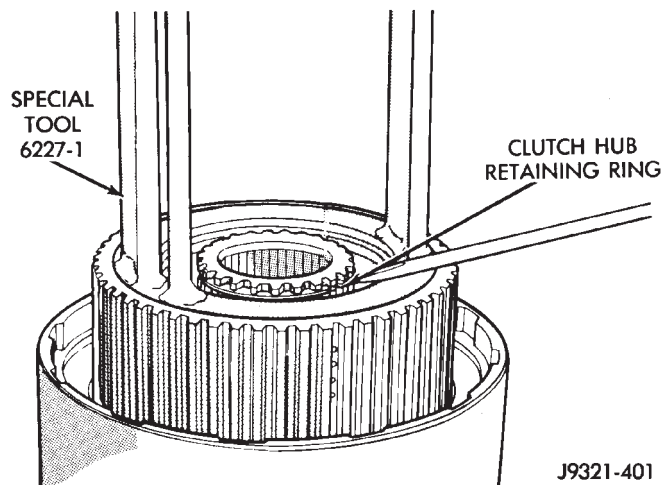

Fig. 297 Clutch Hub Retaining Ring Installation
(29) Install clutch hub retaining ring (Fig. 297). **Be very sure retaining ring is fully seated in sun gear ring groove.**
(30) Slowly release press ram, remove compressor tools and remove geartrain assembly.